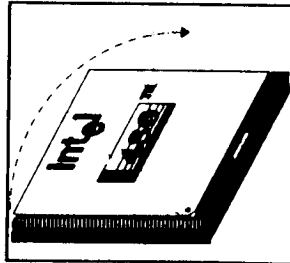

Figure 1-3: ZIF Socket
2. Locate the pin 1 indicator on the 486 or OverDrive processor chip. This is usually indicated by a small black dot or a diagonal notch on one corner of the chip. See figure 1-3.
3. Place the chip into position so that the pin one indicator is properly aligned with socket. See figure 1-3.